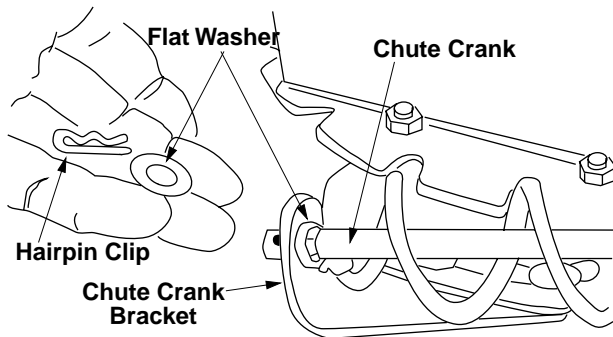

Figure 17
- Place one flat washer on the end of the chute crank, then insert the end of the crank into the hole in the plastic bushing in the chute crank bracket. See Figure 17.
- Place the other flat washer on the end of the chute crank, and insert hairpin clip into hole in the end of crank. See Figure 17.